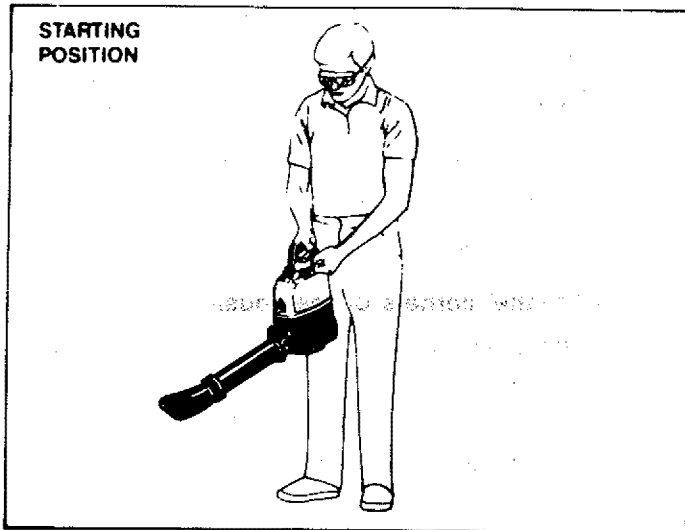

Figure 2
- b. Hold the tool in the starting position as shown in Figure 2. Make sure the blower end is directed away from people, animals, glass and solid objects.
Hold the tool for starting as shown in Figure 2. Do not set the tool on any surface except a clean, hard area to start the engine or while the engine is running. Debris such as gravel, sand, dust, grass, etc. could be picked up by the air intake and thrown out through the discharge opening, damaging the tool or property or causing serious injury to bystanders or the operator.